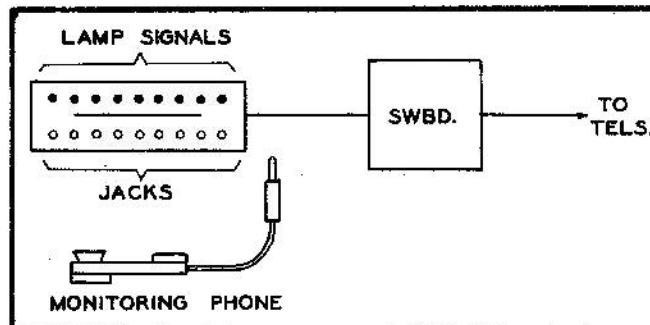

FIG. 9. ARRANGEMENT FOR MONITORING CALLS ON LINES ASSOCIATED WITH LAMP SIGNALS
This provides a means of listening in on calls when supervision is desirable as in schools and other institutions. Signal lamps associated with the talking paths are located at a central point and the proper lamp lights when a call is in progress. The lamps may correspond to (1) individual telephones or trunks; (2) particular selectors or connectors. The monitor may listen in without disturbing the conversation but may engage in it if desired. See Fig. 9.